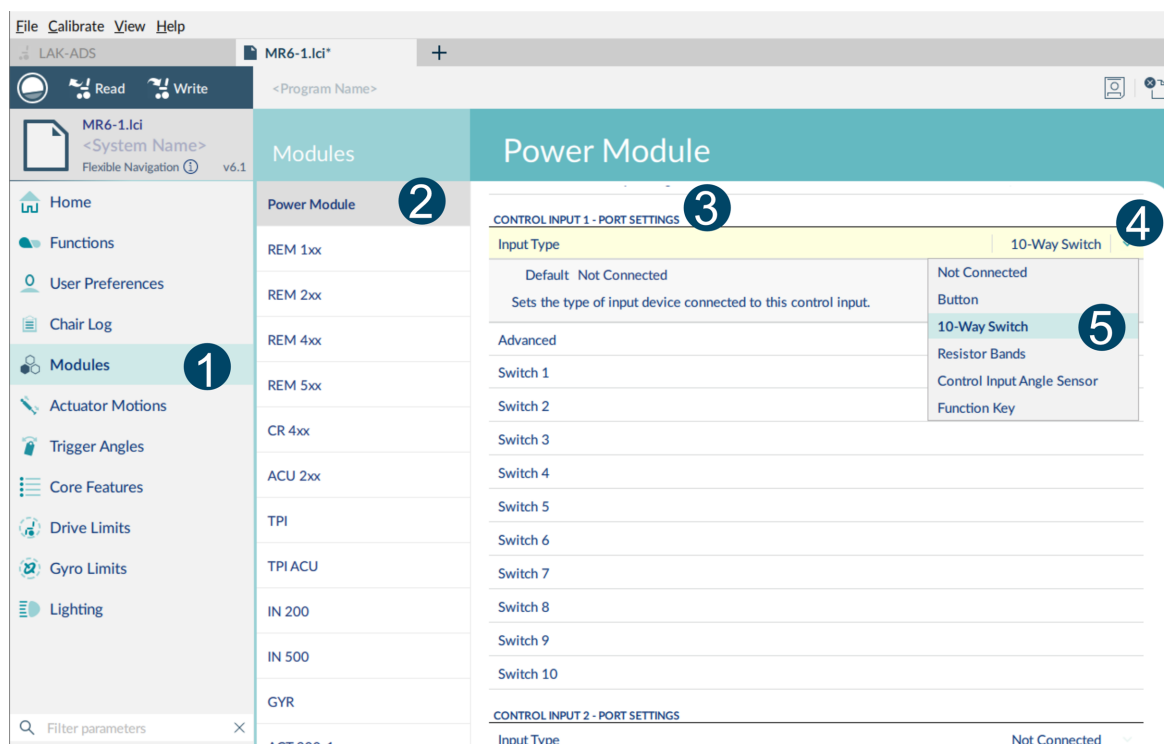

Figure 90: Selecting and configuring control IO inputs
1. From the primary navigation sidebar *Figure 90* ¹, click on **Modules**.
2. From the secondary navigation sidebar Figure 90 ², labelled **Modules**, select the module that your input is connected to. For example, if you have a buddy button connected to one of the CI pins on the power module, select *Power Module*. If you want to use one of the multi-function buttons on the REM400, select *REM4xx*.
3. Scroll down until you find the **Port Settings** Figure 90 ³ for the control input that you want to configure. For example, if you want to add a power button to the left jack socket on a REM400, scroll down until you find *Left Jack Socket (J1) Tip - Port Settings*.
4. Under **Port Settings**, click on **Input Type** Figure 90 ⁴ to reveal which input types are available for the input. These differ depending on the module and your LiNX Access Key access level (OEM/dealer). Input types available will be one or more of the following:
5. Click on one of the Input Types Figure 90 ⁵ to reveal its control IO slots: